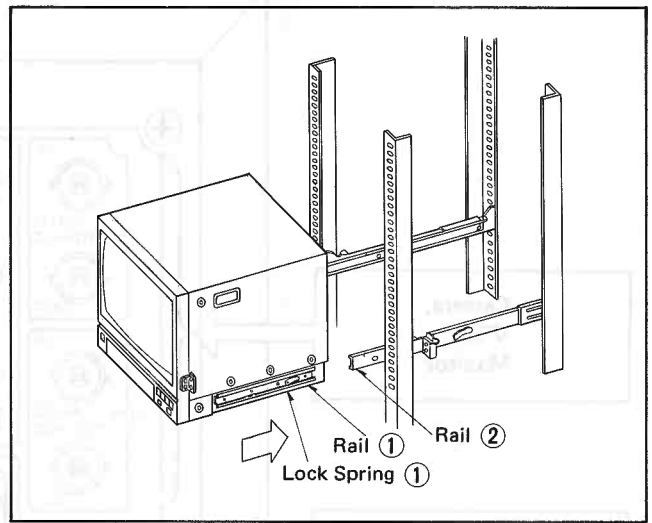

Fig. 8
8. Pull out the both rails (2) until they are locked. While pressing the lock spring (1) of the rails (1), insert the rail (2). The rails (1) and (2) are locked, press again the lock spring (1) to store the set into the rack. (Fig. 8)